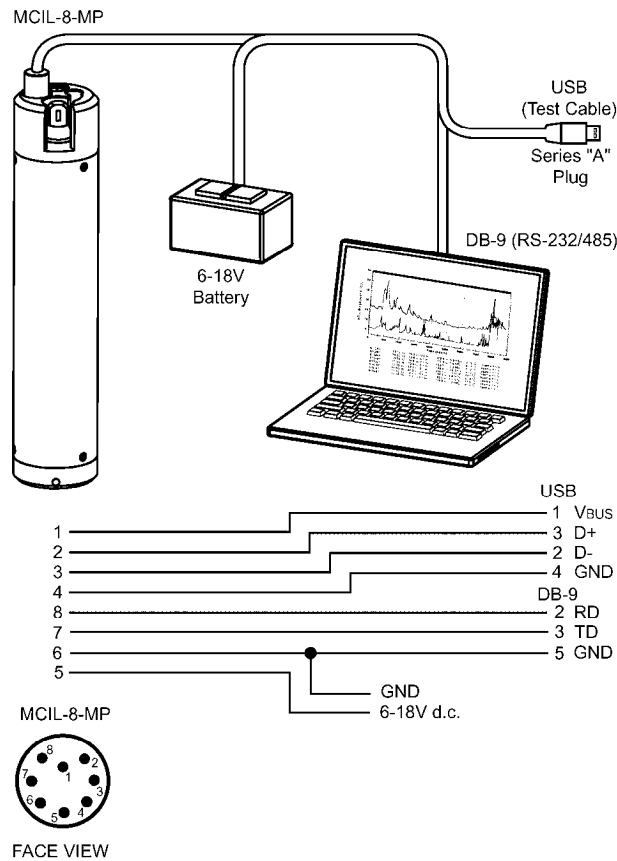

FIGURE 3.2-4. Connections and Wiring of Field Cable
- 3. Connect the OBS-3A to a PC with the test cable (FIGURE 3.2-4).